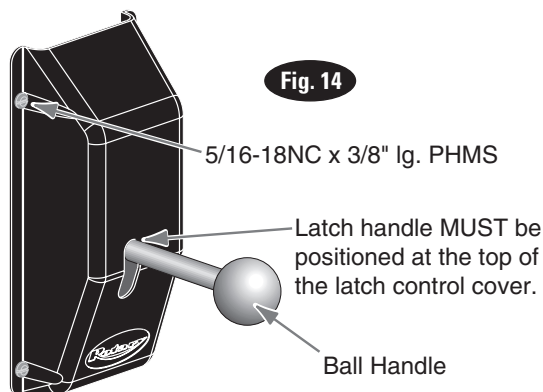

**Fig. 12**
- E) Route cable up inside column and through the latch cable guide, Fig. 11d & Fig. 12.
- F) Continue routing cable to the left column latch cable guide, Fig. 11d & Fig. 12, routing the cable through the left column latch cable guide, Fig. 11d.
- L) Next, pull the control plate down, Fig. 12 & Fig. 13, to eliminate any clearance between the control plate slot and the latch dog pin, Fig. 12.